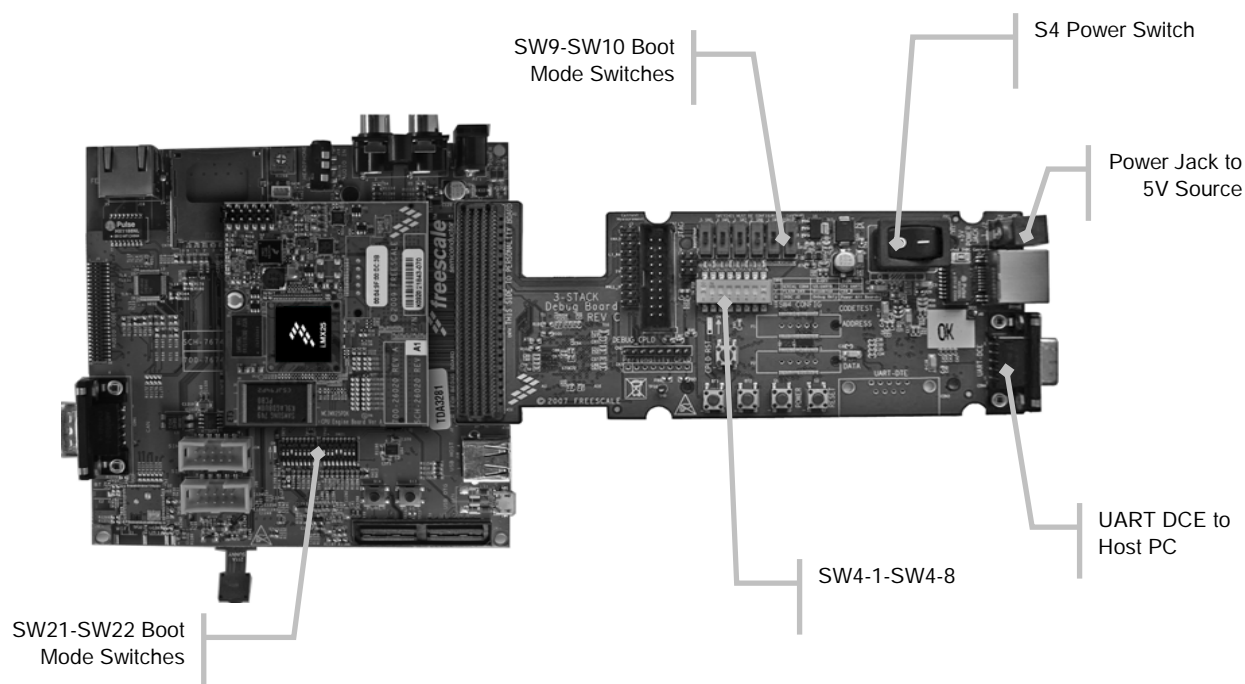

Figure 3-4 PDK Debug Assembly
Figure 3-4 illustrates the components and locations indicated in the steps that follow.
3. Connect the regulated 5V power supply to the appropriate power adapter. Plug the power adapter into an electrical outlet, and plug the 5V line connector into the J2 (5V POWER JACK) connector on the Debug board. See Figure 3-4.